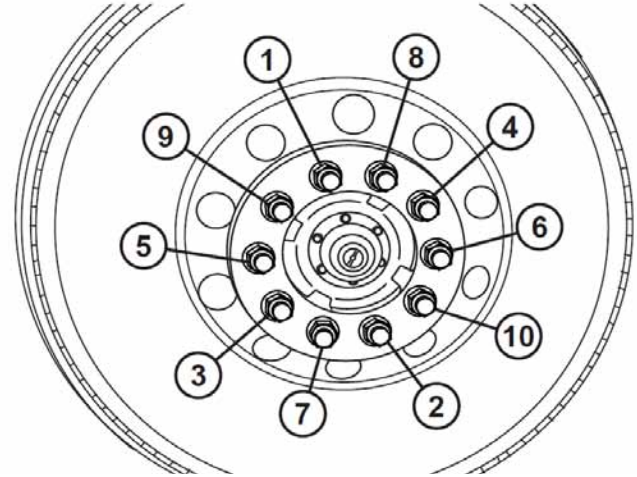

Figure 106
- **Weekly Checks** – Tighten the tag and pusher wheel lug nuts to 450 ob-ft (610 N•m) using an alternating (star) pattern shown (Figure 106).